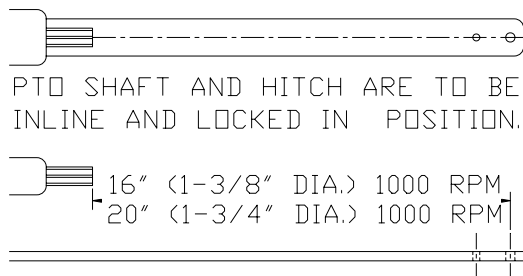

Figure 10 - Tractor Drawbar Illustration.
2. Adjust the tractor drawbar as shown in Figure 10 for 1000 RPM operation of PTO.